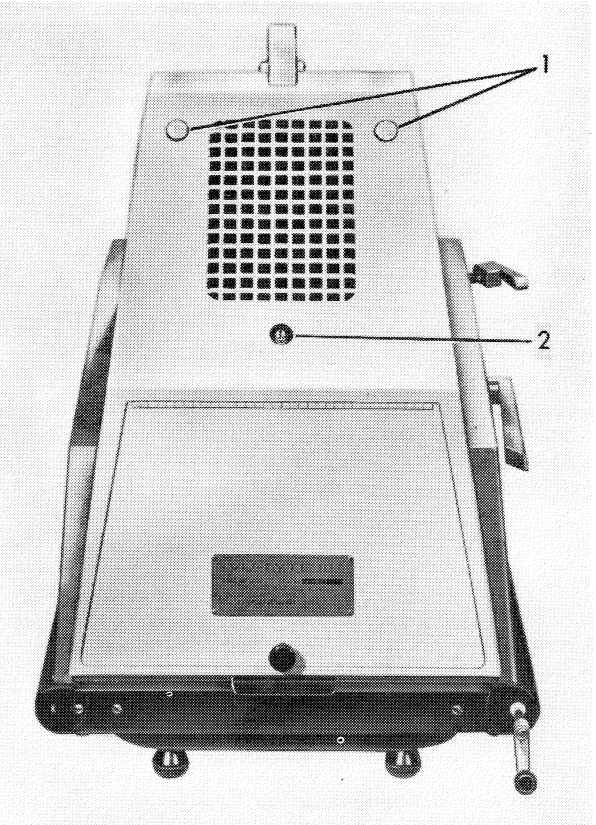

Figure 4—Rear View
- (1) Remove the three plug buttons (1, Fig. 4) which cover the slotted adjusting nuts.
- (2) Focus the bottom portion of the screen sharply.
- (3) Turn the bottom nut clockwise and observe the screen. The portion of the screen not in focus will either get better or worse.